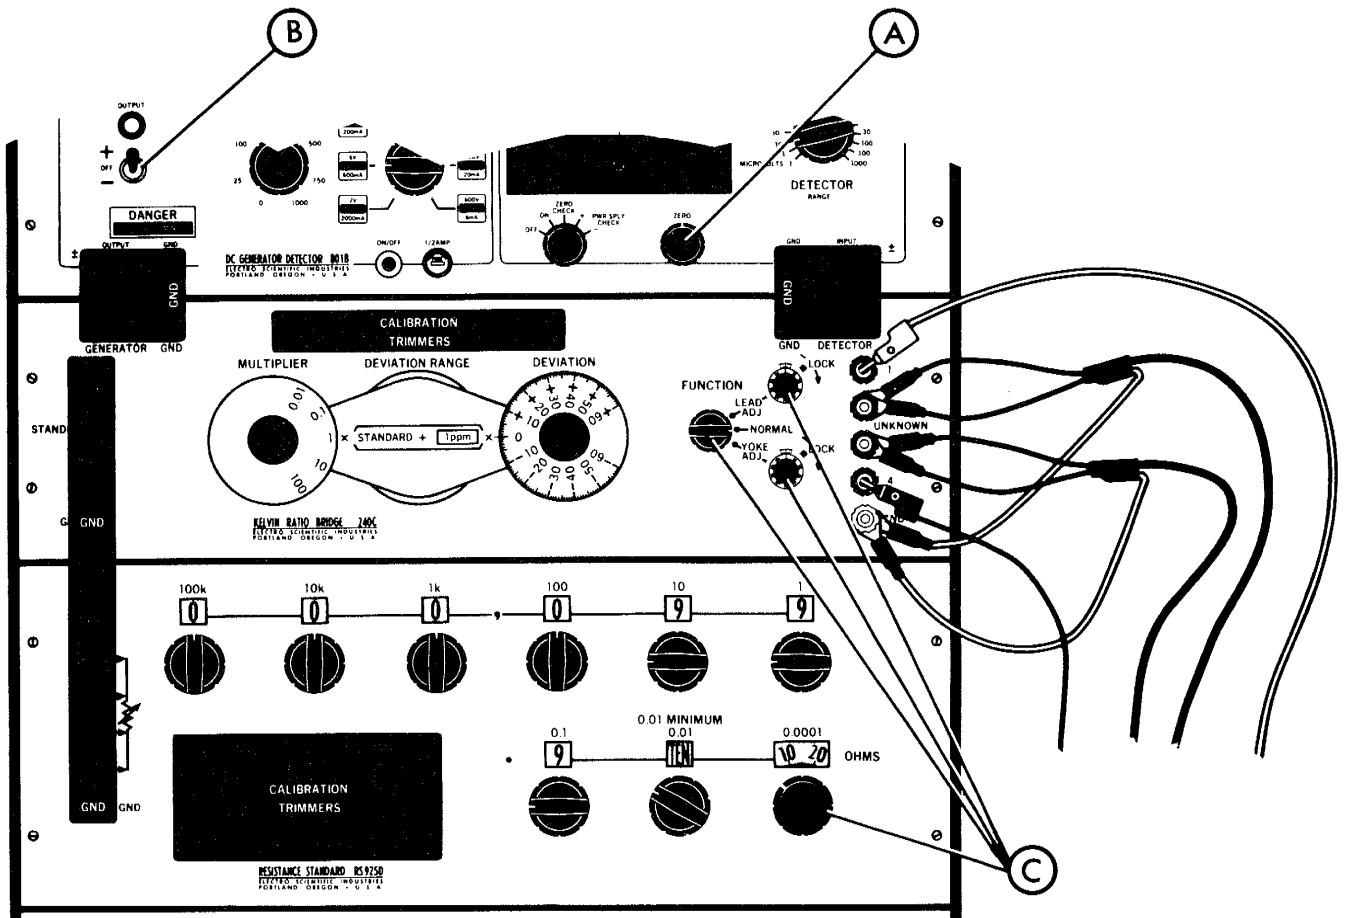

Figure 5-14. Measurement of Resistor R10
13. Measure resistor, R10. Reference Figure 5-14.